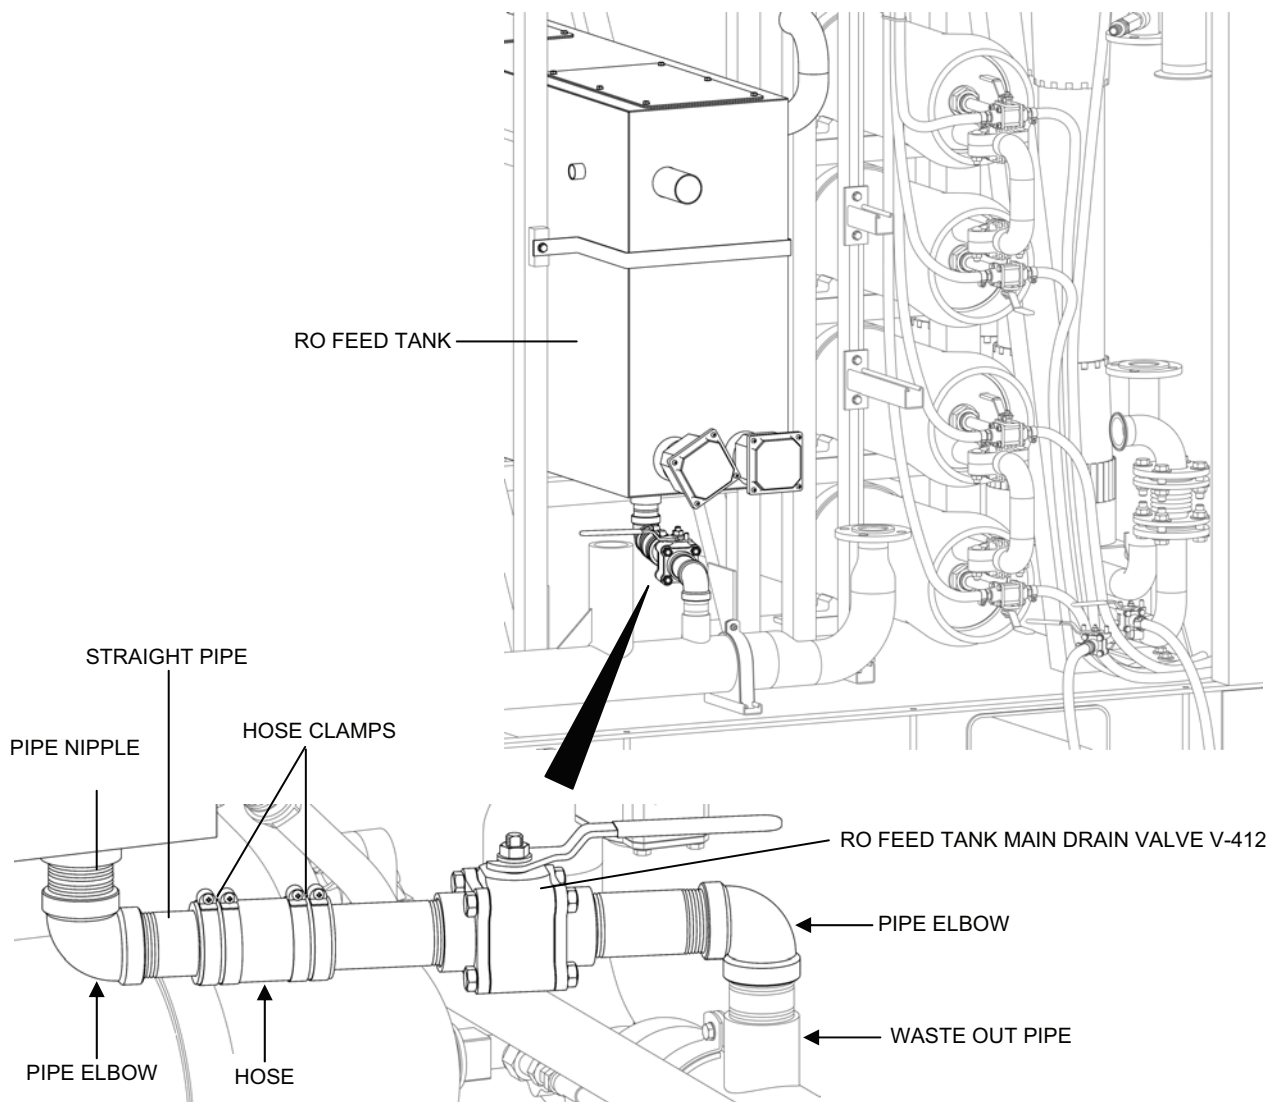

Figure 7. RO Feed Tank Drain Pipe Assembly Removal.
7. Remove RO Feed Tank Drain Valve V-412 and pipe assembly from the RO feed tank to the waste out pipe spool as follows (see Figure 7):
3. Install RO Feed Tank Main Drain Valve V-412 and the pipe run from the RO feed tank to the waste out pipe as follows (see Figure 7):
- a. Apply antiseizing tape to the external threads of the pipe nipple on the elbow that was removed from the drain of the old tank. Thread the pipe assembly into the drain of the new tank. Make sure the pipe assembly is positioned as shown in Figure 7.